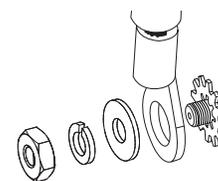

Fig. 6, Hardware Stack Up
5. Connect the power supply external ground connection to the rack ground stud  in Fig. 4. Follow the proper stack up (Fig. 6) to attach the supplied #10-32 nut, lock washer, flat washer, and supplied ground wire.